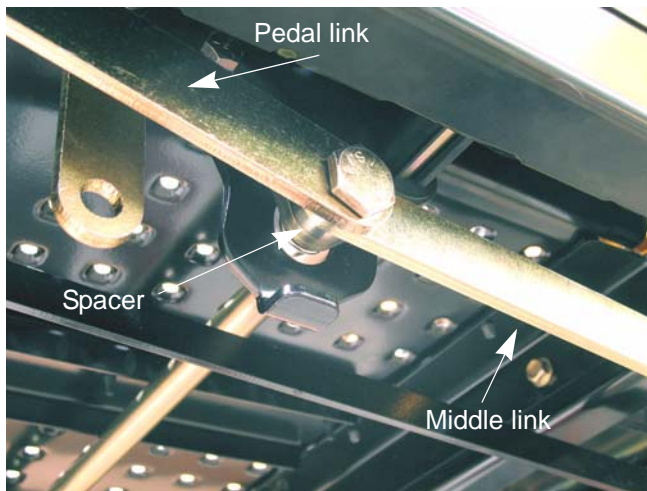

Figure 8.29
4. Remove the shoulder bolt that connects the pedal link to the front lift shaft and middle link using a 15/16" wrench and a 9/16" wrench. See Figure 8.29.